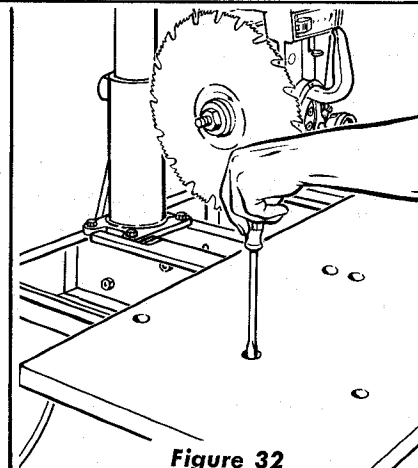

Figure 32
- (3) Recheck ... and, if correct, tighten all table holddown screws securely. (See figure 32.)